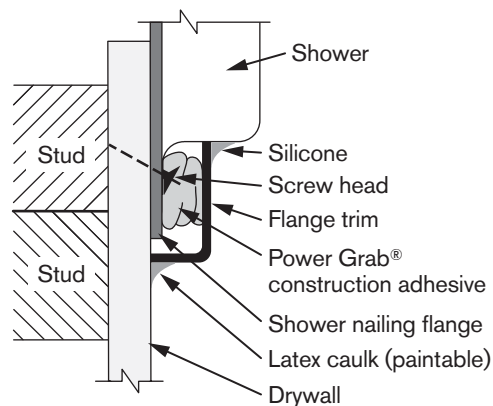

Figure 3
- cut out to install the shower (Figure 3); or